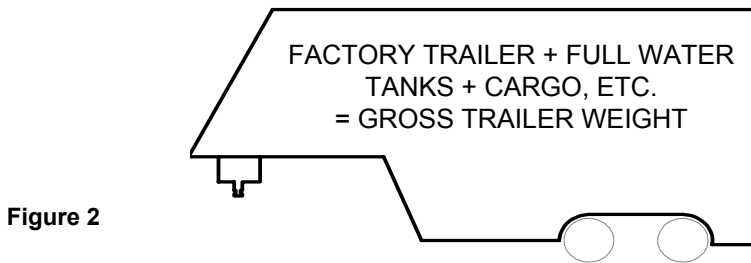

Figure 2
- Towing vehicle must have a manufacturer's rated towing capacity equal to or greater than the gross trailer weight (dry weight of the trailer plus payload of the trailer). (Figure 2)
Gross Trailer Weight (Figure 2): _____